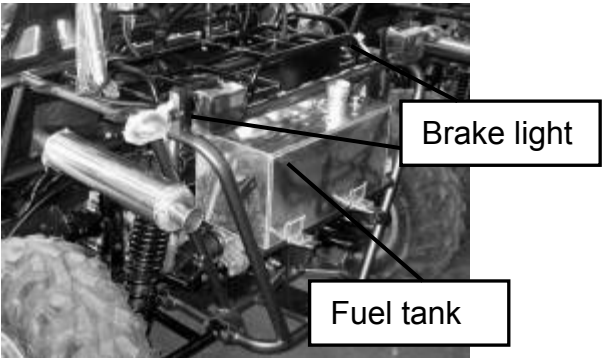

Figure 3
3. Check for Fuel Level. Add fuel as necessary and do not overfill. Check for leaks. (see Figure 3)